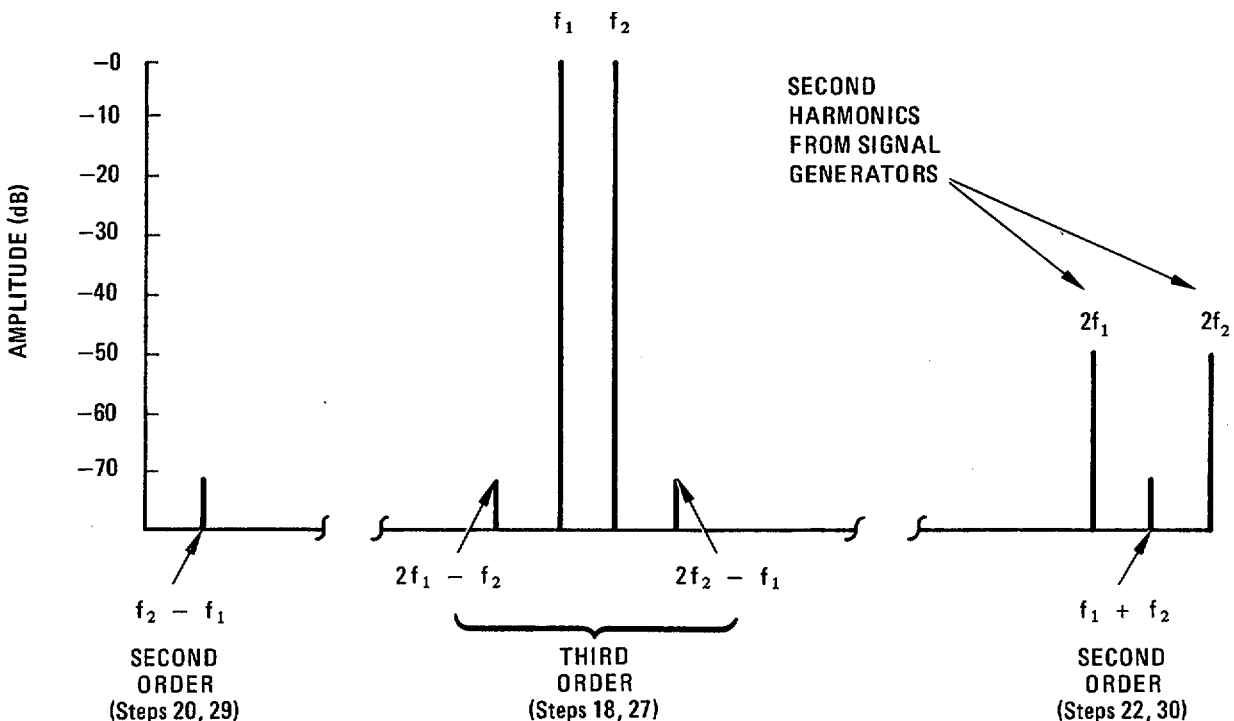

Figure 4-15. Intermodulation Distortion Products
18. Reduce spectrum analyzer RESOLUTION BW to 3 kHz and check for third order intermodulation distortion products at approximately 3 divisions to either side of center graticule line (see NOTE below). They should be more than 70 dB below input signals (-100 dBm on spectrum analyzer display). (See Figure 4-15.)
20. Set spectrum analyzer TUNING to 1 MHz and momentarily press FREQUENCY CAL switch. Set RESOLUTION BW to 3 kHz and adjust VIDEO FILTER as necessary for more than 70 dB display range. Check for second order intermodulation distortion product ( $f_2 - f_1$ ) near center of display (see NOTE below). Second order intermodulation distortion product should be more than 60 dB below the total applied signal (-100 dBm on spectrum analyzer display). (See Figure 4-15.)
22. Check for second order intermodulation distortion product ( $f_1 + f_2$ ) between  $2f_1$  and  $2f_2$  signals (see NOTE below). Set RESOLUTION BW to 3 kHz and adjust VIDEO FILTER as necessary for more than 70 dB display range. Second order intermodulation distortion product should be more than 70 dB below total applied signal (- 110 dBm on spectrum analyzer display). (See Figure 4-15.)
29. Set spectrum analyzer TUNING to 1 MHz and momentarily press FREQUENCY CAL switch. Set RESOLUTION BW to 3 kHz and adjust VIDEO FILTER as necessary for more than 70 dB display range. Check for second order intermodulation distortion product ( $f_2 - f_1$ ) near center of display (see NOTE below). Second order intermodulation distortion product should be more than 60 dB below total applied signal (-100 dBm on spectrum analyzer display). (See Figure 4-15.)
30. Set spectrum analyzer TUNING to 8 MHz and check for second order intermodulation distortion product ( $f_1 + f_2$ ) between  $2f_1$  and  $2f_2$  signals. (See figure 4-15.) Second order intermodulation distortion product should be more than 60 dB below total applied signal (- 100 dBm on spectrum analyzer display). (See NOTE above.)